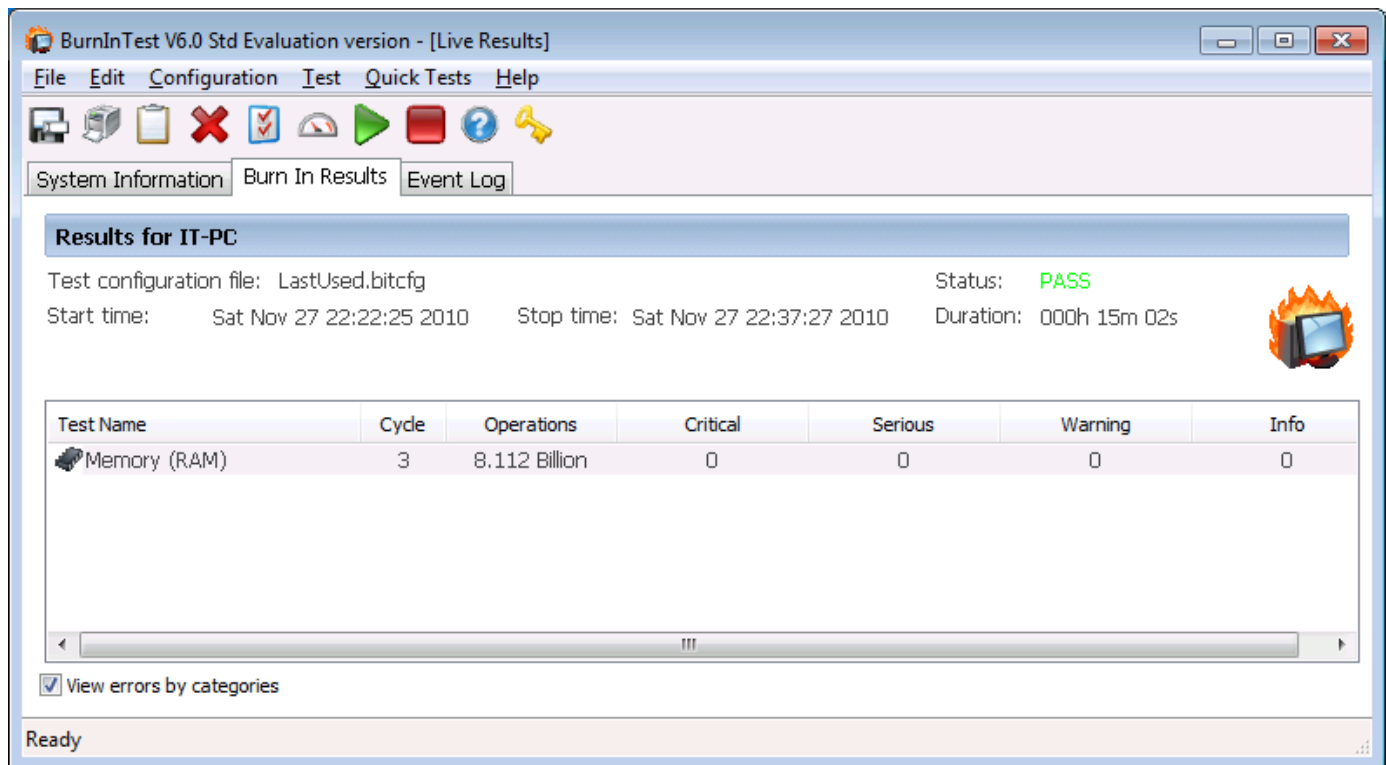

Figure 5.12
7. When the status result appears (Either “Passed” or “Failed”), click [OK]. The testing result appears, like below in Fig.5.12 (depends on your machine condition):